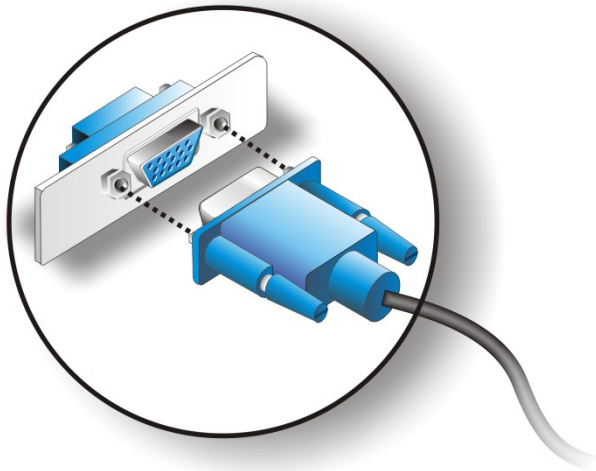

Figure 3-20: VGA Connector
Step 3: Insert the VGA connector Once the connectors are properly aligned with the insert the male connector from the VGA screen into the female connector on the POC-17i/19i Series. See Figure 3-20.